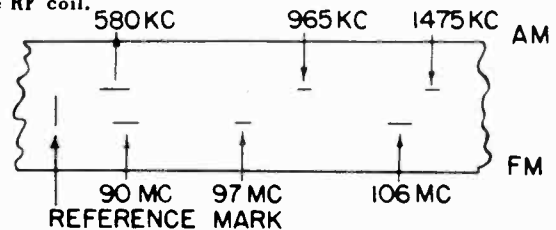

Fig. 5—Dial Reference Points
**PRELIMINARY PROCEDURE:** With gang condenser closed, set dial pointer to coincide with reference mark etched into dial back plate. See Fig. 5. Place band switch in AM position and use a 30% modulated signal throughout. Connect an output meter across voice coil. Adjust Antenna Trimmer C87 after chassis is installed in the cabinet. Keep input as low as possible while obtaining a stable output meter reading.
**PRELIMINARY ALIGNMENT PROCEDURE:** With gang condenser fully closed, adjust dial pointer to coincide with the reference mark etched into dial back plate. See Fig. 5. Place band switch in FM position. Use 30% amplitude modulated signals when possible.